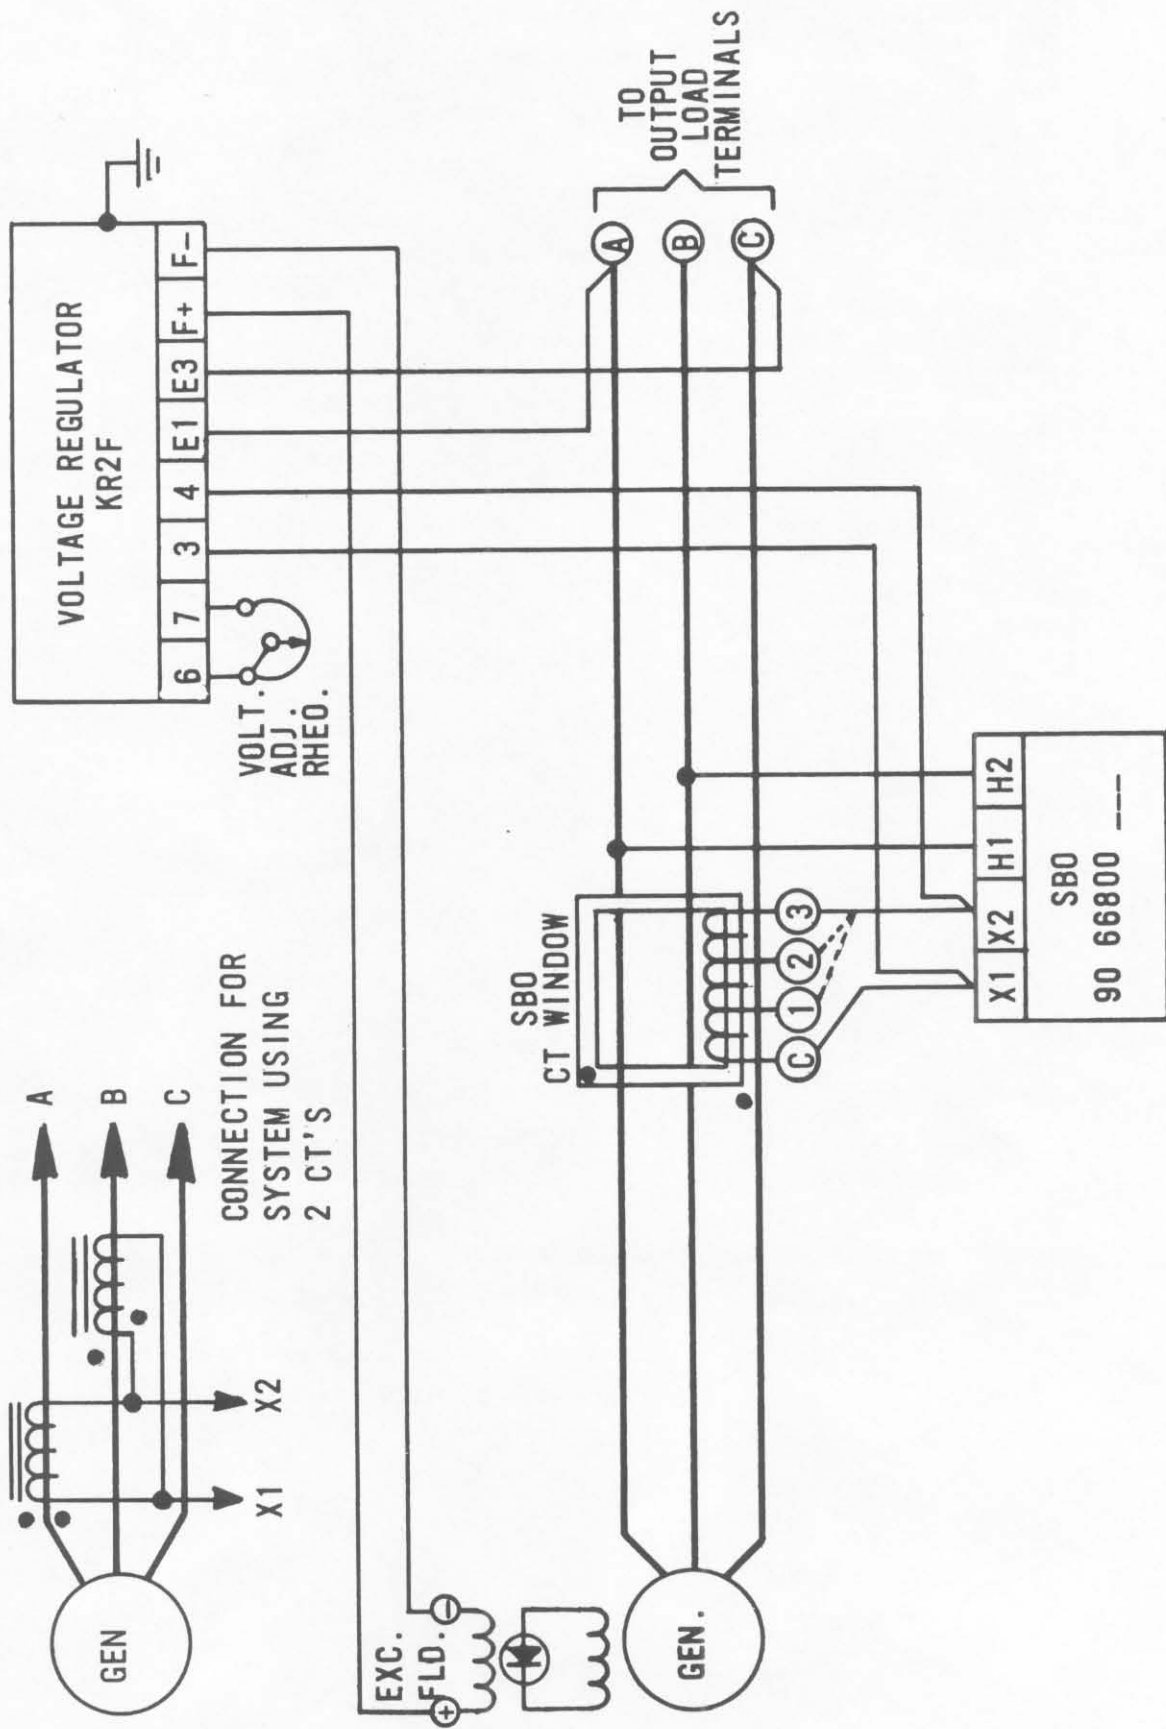

FIGURE 7 INTERCONNECTION DIAGRAM
3.2.1 The SBO must be interconnected as shown in Figure 7. Correct phase relationship must be observed.